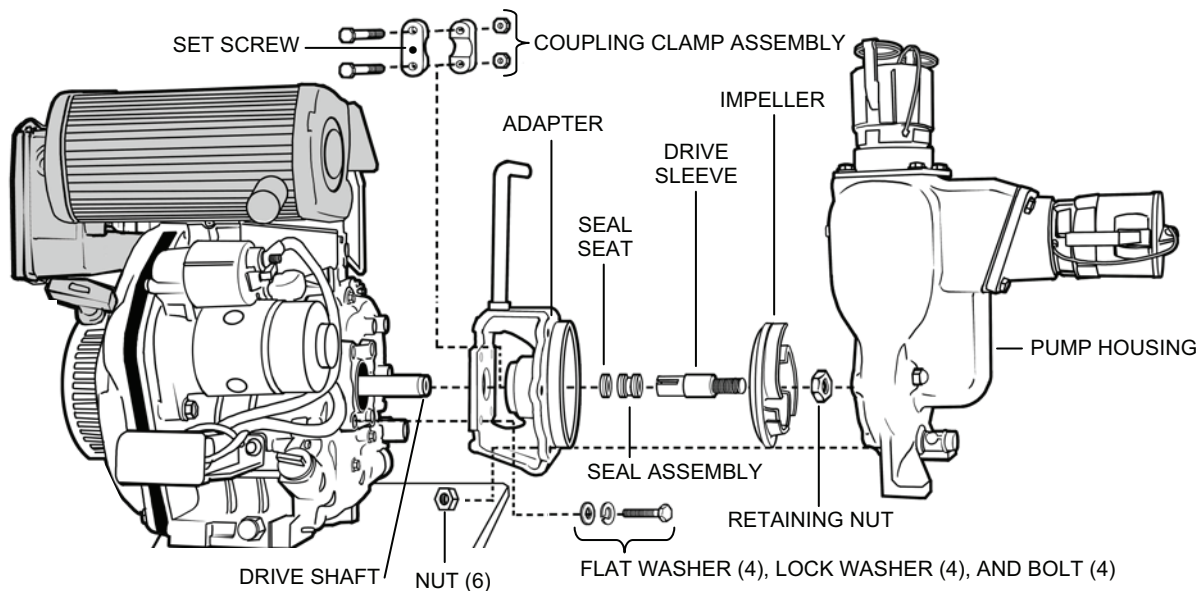

Figure 5. Pump Removal.
2. Remove the pump and adapter from the engine as follows (see Figure 5):
4. Install the adapter and pump onto the new engine as follows (see Figure 5):